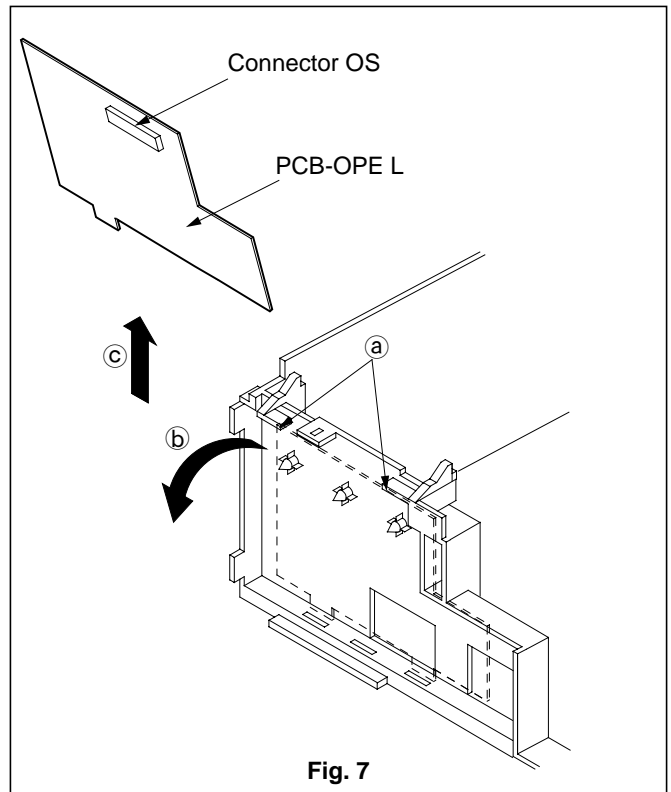

Fig. 7
4. Unfasten the two catches (a) shown in Fig. 7 and rotate the PCB-OPE L in the direction shown by arrow (b) and remove it in the direction shown by arrow (c).